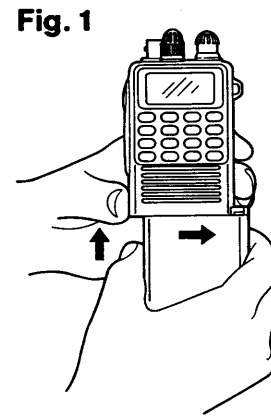

Fig. 2
- ② Open the battery case. (Fig. 2)